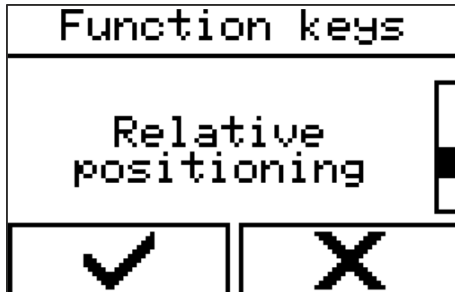

Fig. 44: Selecting a menu
1. → Select the menu via 'Hand switch' → 'Premium functions' → 'Settings of function keys' → 'Relative positioning' (Fig. 44).